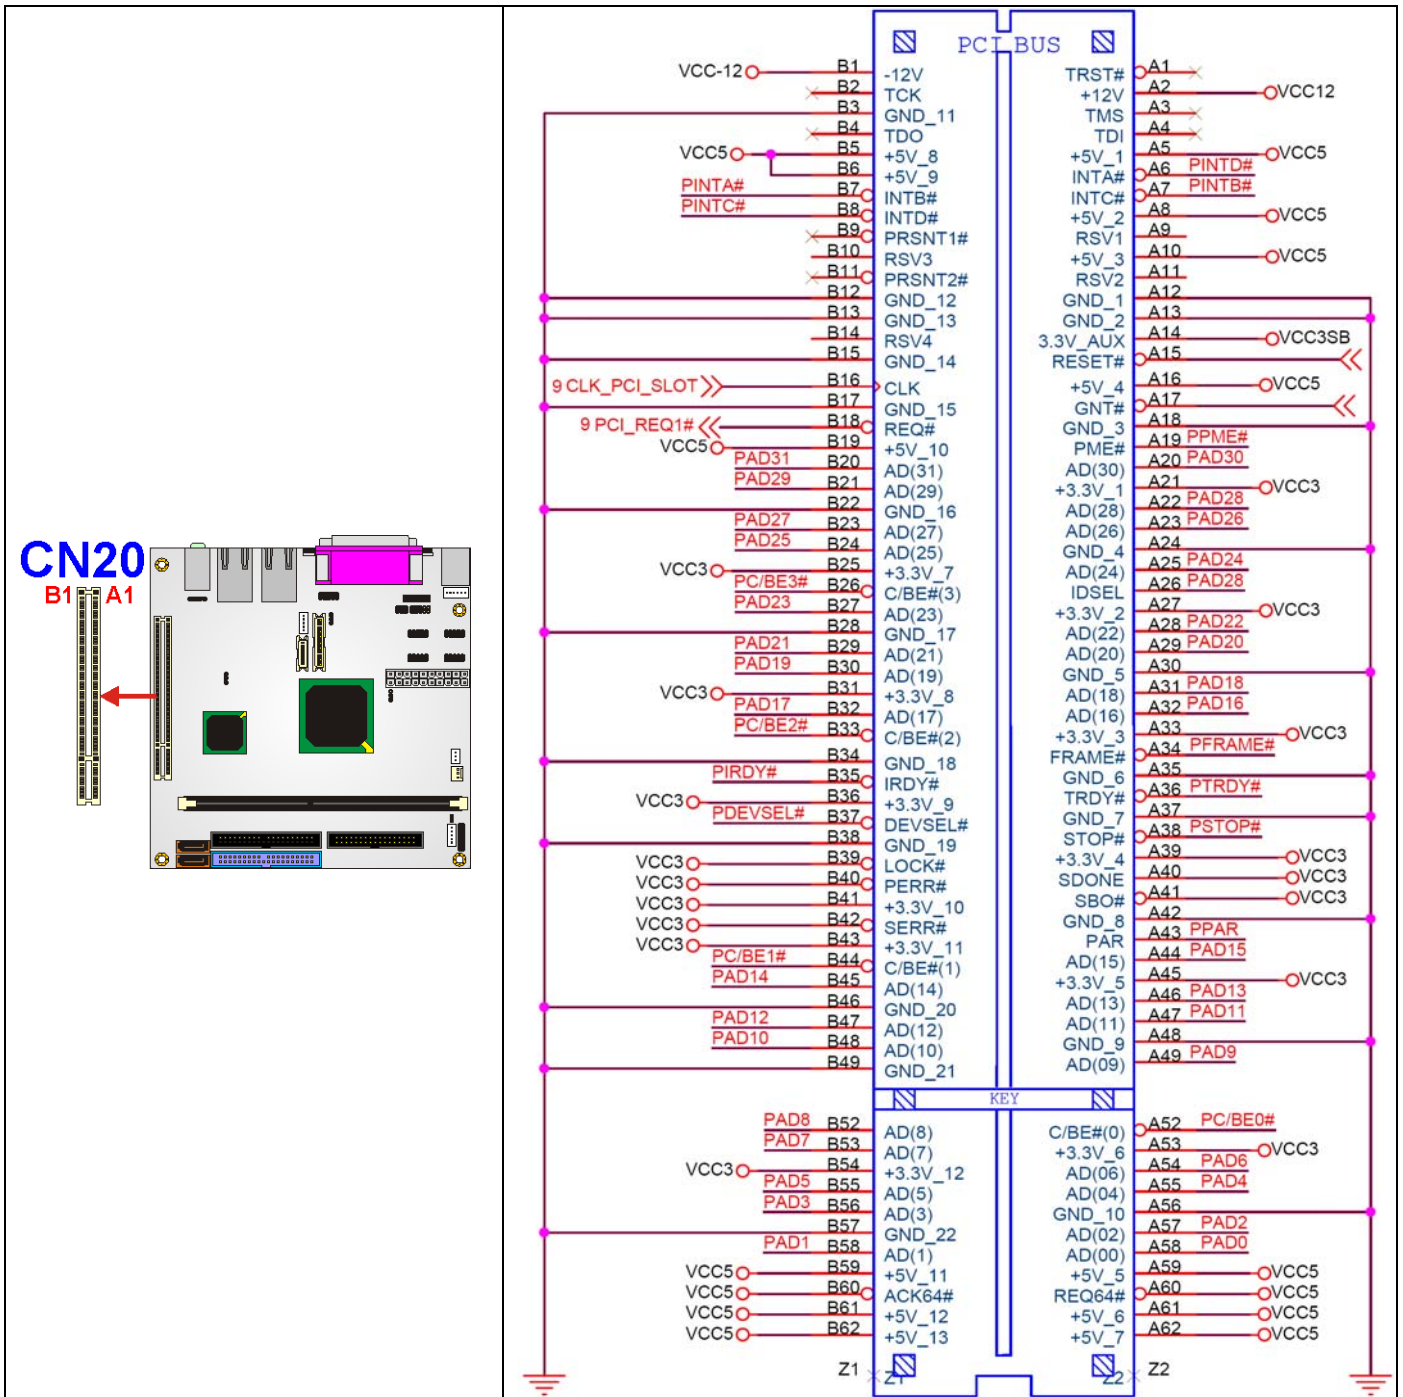

Figure 3-14: PCI Slot Location
- CN Location: See **Figure 3-14**